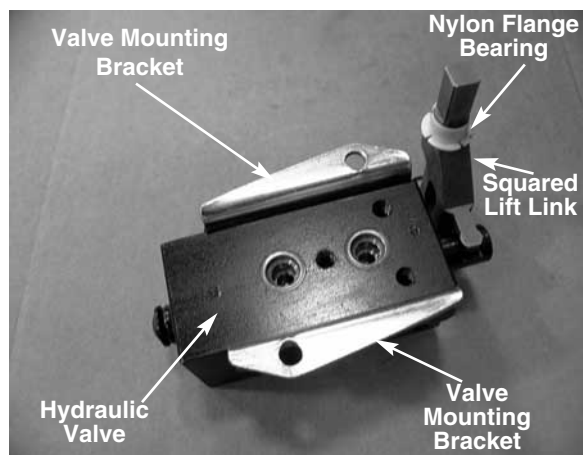

FIGURE 5.
10. Remove the valve body from the tractor. See figure 5.
13. Remove the valve mounting brackets. See figure 5.